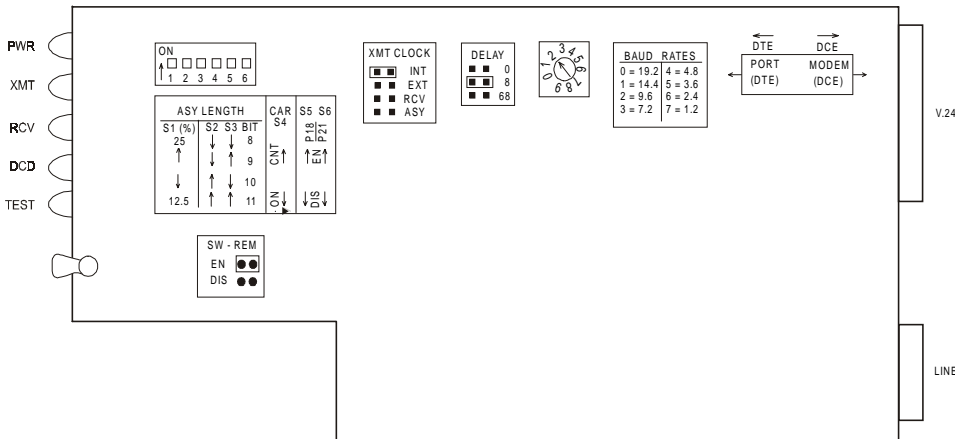

Figure 1. Strapping Diagram
3. Set SW5 and SW6 to DIS (OFF position), if the attached DTE does not use Pins 18 and 21 for test purposes and the cable between DTE and CMN-C8 does not contain these pins (see *Figure 1*).